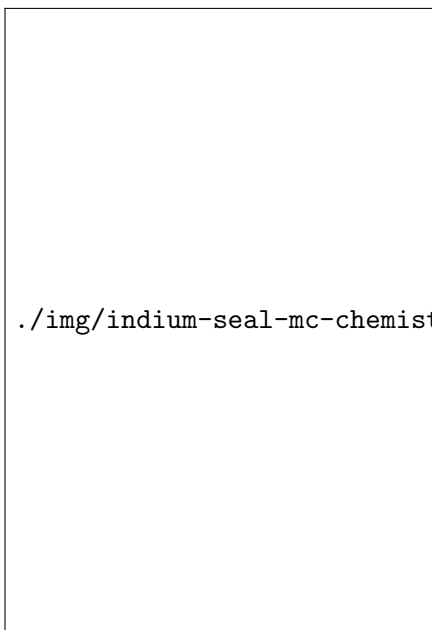

Figure 5.17: The chemistry clamp holds the MC within 1 cm from the fridge, keeping the screw holes aligned, without letting the indium touch the fridge.
8. When it is time to make the seal on the fridge, carefully raise the can up to the fridge within 1 cm from touching, not allowing anything to touch the indium wire. If the wire is displaced, remake the seal. For the MC, hold in place with a chemistry clamp like in Figure 5.17, making sure to align the screw holes.